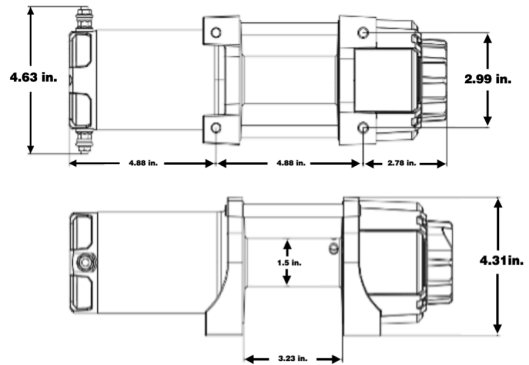

Fig. 1
2. Mark the locations where the screw holes will be (Fig. 1).